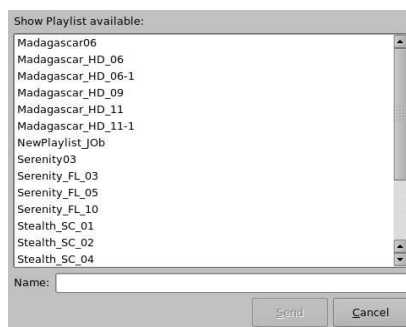

Figure 78: Window to Add a Show Playlist
- The following screen will be displayed (Figure 78):